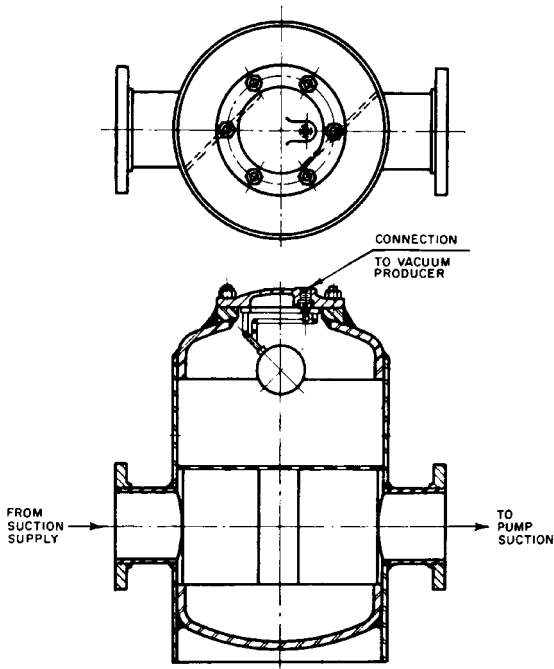

FIGURE 12 Air-separating chamber
**Systems for Air-Charged Liquids** Some types of liquid have considerable dissolved gas that is liberated when the pump handles a suction lift. In such installations, an air-separating tank (also called a *priming tank* or an *air eliminator*) should be used in the suction line. One type (Figure 12) uses a float-operated vent valve to permit the withdrawal of air or other gas. Another common arrangement uses a float valve mounted on the side of the tank to directly control the starting and stopping of the vacuum pump. Unless the air-separating tank is relatively large and the vacuum pump is not oversized, there is danger of frequent starting and stopping of the vacuum pump in such a system. When sand is present as an impurity in the liquid, the air-separating tank can be made to also function as a sand trap.